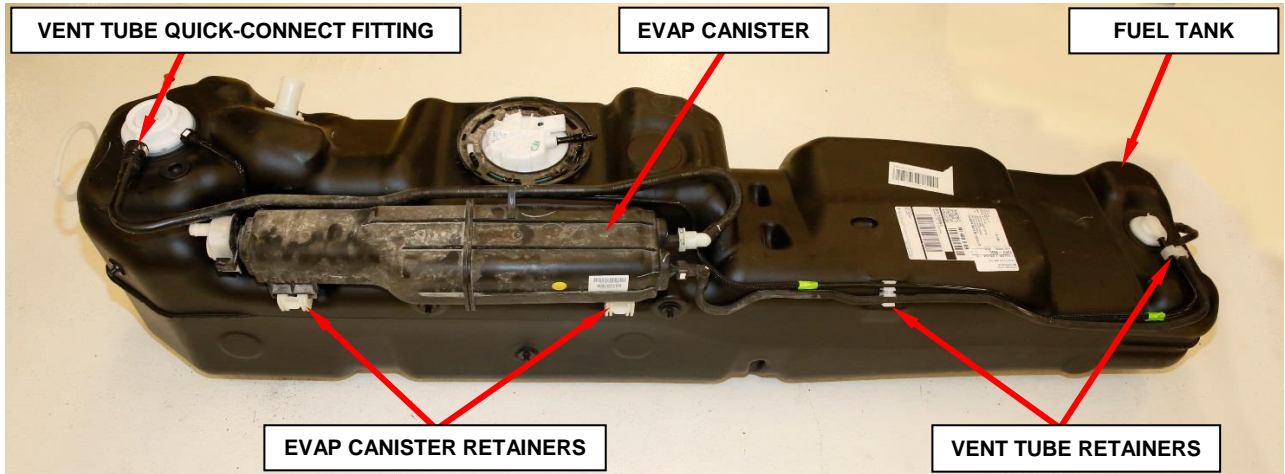

Figure 17 – Fuel Tank with EVAP Canister
42. Disconnect the EVAP canister rear vent tube quick-connect fitting from the rear of the fuel tank (Figure 17).
43. Release the EVAP canister front vent tube from the retainers on the fuel tank (Figure 17).
44. Release the EVAP canister from the retainers on the fuel tank (Figure 17).
59. Engage the EVAP canister into the retainers securing the EVAP canister to the fuel tank (Figure 17).
60. Install the EVAP front vent tube into the tube retainers on the fuel tank (Figure 17).
61. Connect the EVAP rear vent tube quick-connect fitting to the rear of the fuel tank (Figure 17).